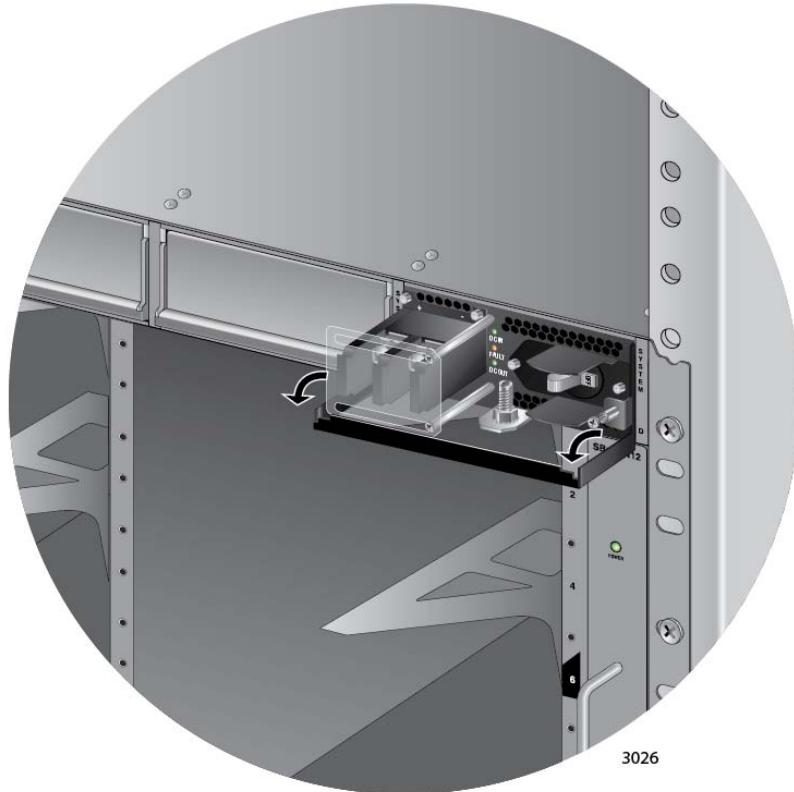

Figure 61. Locking the Handle on the AT-SBxPWRSSYS1 DC System Power Supply
7. Lower the locking handle of the power supply module to secure the module in the slot, as shown in Figure 61.